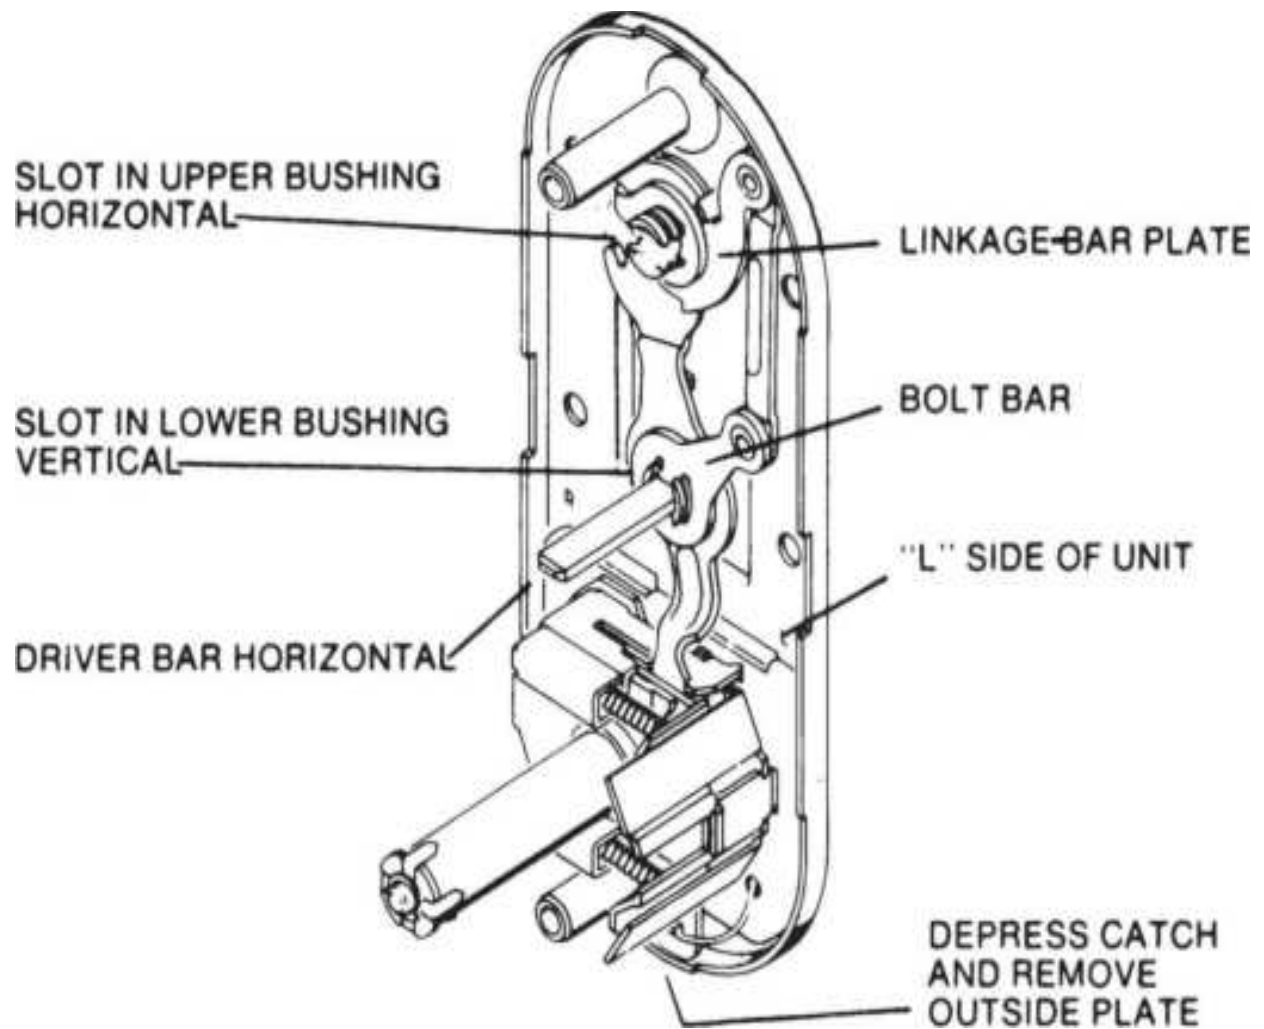

**Figure 13.92** Assembled left-hand unit.
***Converting from left- to right-hand.*** Figure 13.92 is an assembled view of a left-hand unit. To convert it to right-hand operation, follow these steps: